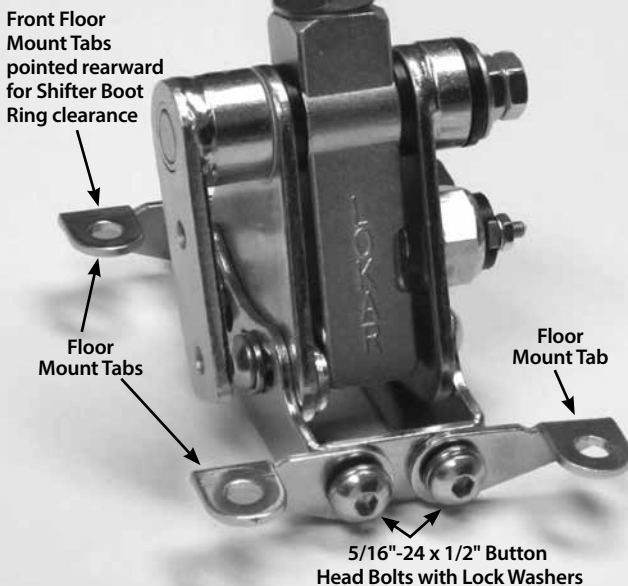

Fig. 9
Step 11: There are two pairs of floor mount tabs in the Shifter Kit. Which pair goes where will depend on if you are mounting the Shifter above or below the floor. See **Fig. 9** to determine how the floor mount tabs need to be positioned for your particular application.
Attach the floor mount tabs to the floor mount mounting bracket as shown in **Fig. 9** with the 5/16"-24 x 1/2" button head bolts and lock washers. Leave the bolts loose enough so that adjustments can be made later during the installation.